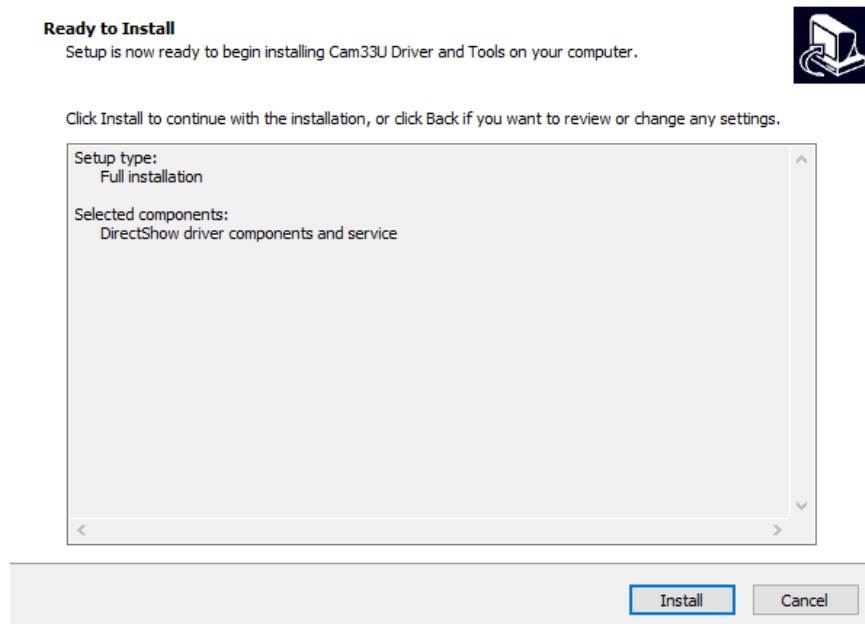

Figure 2.6: Successful Installation of the Doric Neuroscience Studio
1. Click **Install** to begin the process (Fig. 2.6). This should take a few moments. When the installation is done, the message in figure 2.9 will show up.